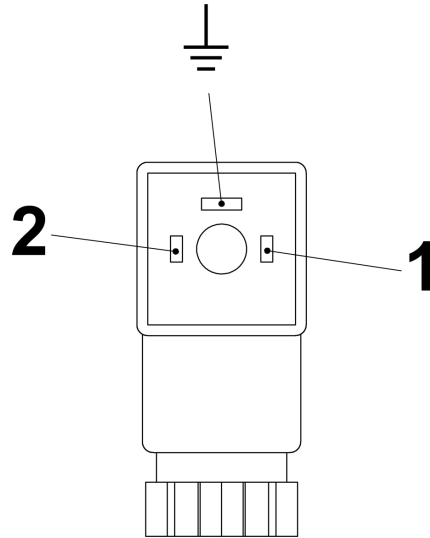
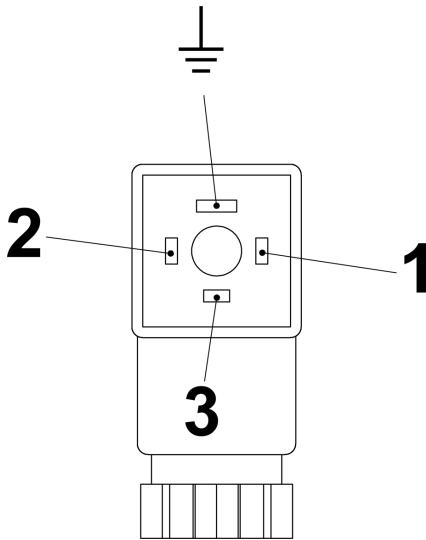

Fig. 24: Pin assignment, plug socket, normally-open contact (Form 15x50)
Fig. 25: Pin assignment, plug socket, change-over contact (Form 15x50)
6. ➔ Make the connections as shown in the connection diagrams (Fig. 24 und Fig. 25).